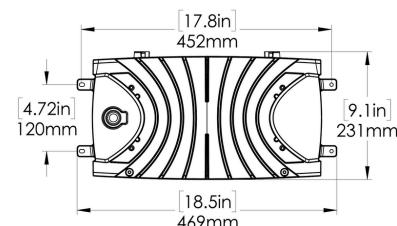

Fig. 18
4. Install the driver box in desired location using the mounting hardware, refer to Fig. 18 for the driver box dimensions.